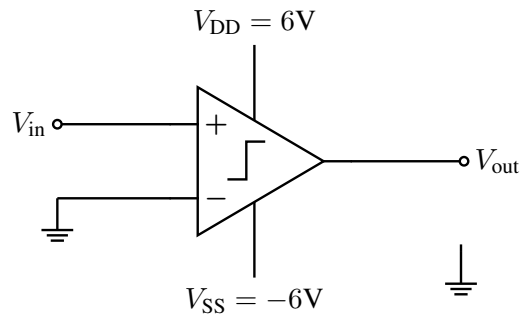
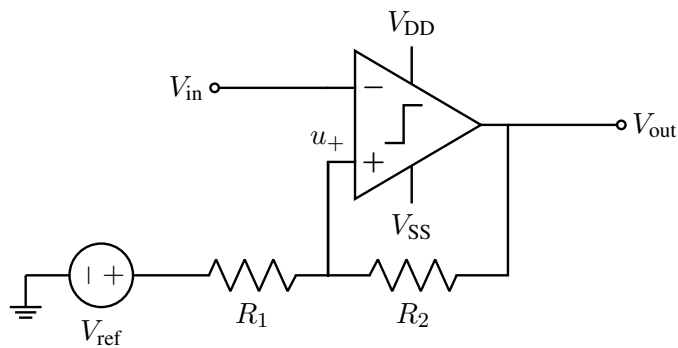

Figure 18: First attempt eye-pad control circuit.
Figure 19: Proposed eye-pad control circuit.
- (b) We want to use a comparator to turn the heat ON and OFF, and you set up the circuit in Fig. 18. You process the V_T to make $V_{in} = (1 - \frac{T}{T_0})[\text{Volts}]$, where $T_0 = 30^\circ\text{C}$. The heat will turn on when
- (c) Your TA, Moses, points out that just using the circuit in Figure 18 will cause your heat to turn ON and OFF due to very small fluctuations. Instead, he suggests analyzing the following circuit in Figure 19. Find the voltage u_+ at the positive terminal of the comparator, as a function of V_{out} , R_1 , R_2 , and V_{ref} . Clearly show all your work.